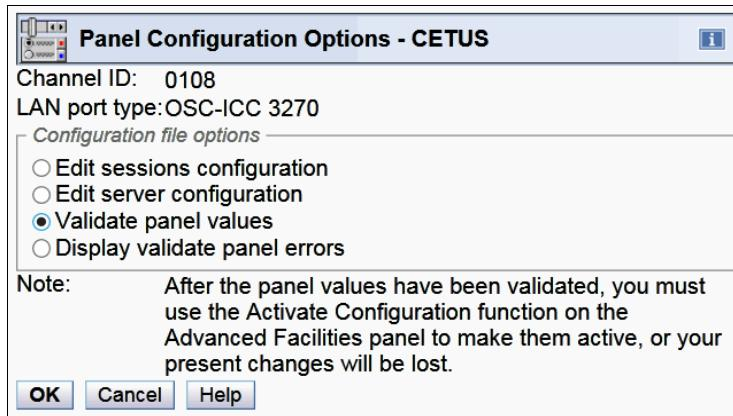
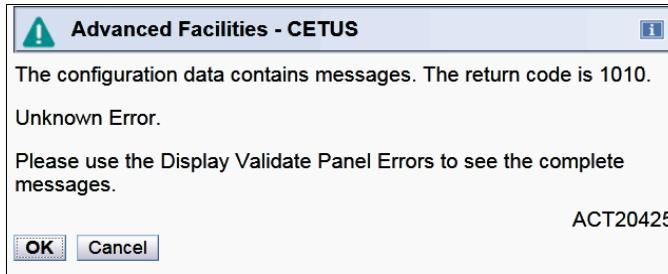

Figure 7-9 Display validate panel errors
Figure 7-10 Panel Configuration Options error found
12. The Panel Configuration Options window opens again (Figure 7-9). Now you can validate the values. Select **Validate panel values** and click **OK**.
13. If configuration data is correct, the command completed (ACT20402) window opens. If an error is encountered, a window similar to Figure 7-10 opens. You can confirm the error by selecting **Display validate panel errors** on Panel Configuration Options (Figure 7-9). Correct the error, and select **again the Validate panel values** to re-check.